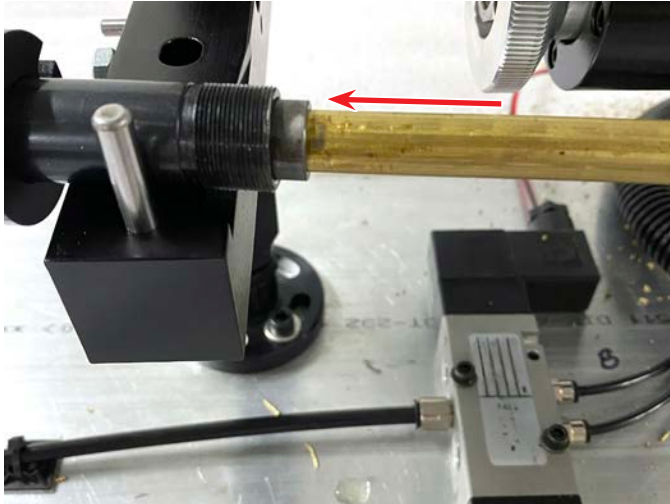

FIGURE 48
- F. Use a piece of bar stock to push the stock pusher down into the bar feeder tube (see Figure 48).